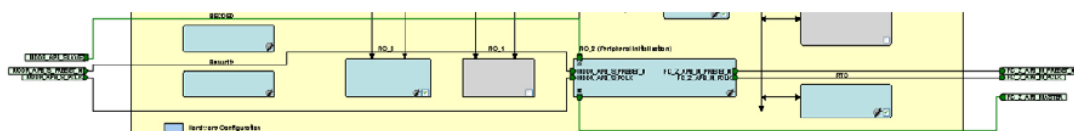

Figure 1-10 • FIC_2 Ports
3. Click OK to save your settings. This exposes the FIC_2 configuration ports (Clock, Reset, and APB bus interfaces), as shown in Figure 1-10.